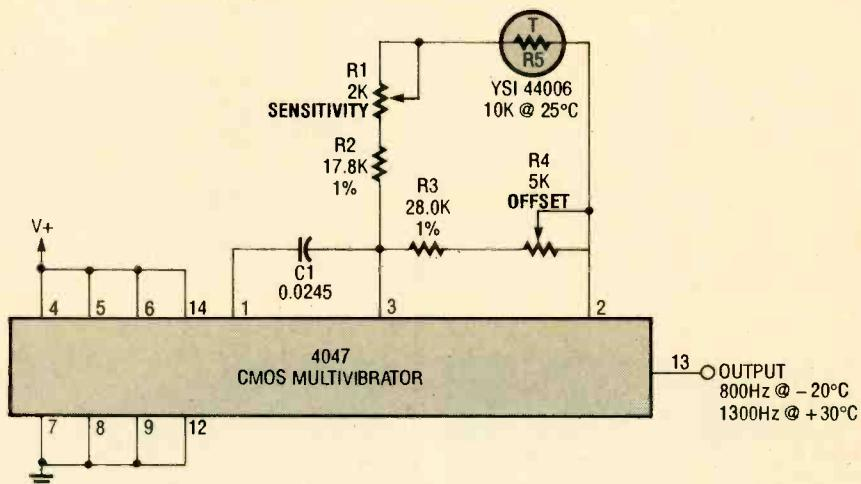

Fig. 8. Temperature-to-frequency conversion is also possible with a thermistor. That is useful for telemetry applications in particular.
**Temperature-to-Frequency Converter.** Temperature-to-frequency conversion is useful in telemetry applications such as RF telephone, or optical transmission where DC transmission is impossible. Figure 8 shows a circuit built around a precision 10k thermistor (YSI 44006) and a 4047 CMOS multivibrator. The 4047's output frequency (pin 13) is given by  $f = 1/(2.2RC)$ . In this circuit, that becomes: